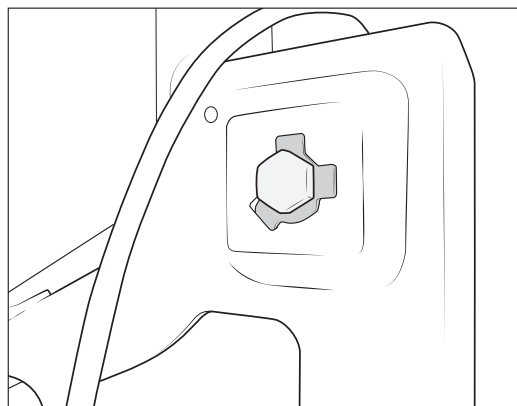

Figure 23
10. Use Anti-Seize and thread the Tire Mount Bolt with the safety lock washer through the back of the Tire Carrier (fig. 23). The pre-bent tongue will sit in the machined slot as shown. NOTE: It will make locking the safety washer easier later if you slightly bend up the ears prior installing the bolt.